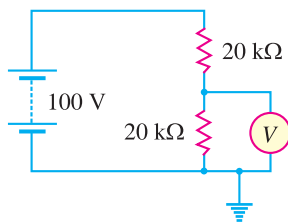

Fig. 22.28
1. A voltmeter is used to measure voltage across 20 k Ω resistor as shown in Fig. 22.28. What will be the voltage value if (i) voltmeter has infinite resistance (ii) voltmeter has a sensitivity of 1000 Ω per volt and reads 100 V full scale ?
3. If the sensitivity of voltmeter in Fig. 22.28 is 500 Ω /volt (Full-scale reading being 100 V), what will be the reading of the voltmeter ?